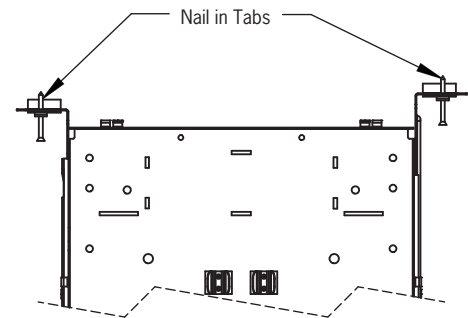

FIGURE 3
- Insert the flexible electrical cable above the ceiling into the cable-clip (2-provided) on the mounting frame. The clips will keep the cable in close proximity to the hole that will be cut in the ceiling for easy access. (Figure 3)
- If you are in a region that requires a seismic tether to support the housing when installed into the mounting frame, ensure that it is in close proximity to the opening in the mounting frame for easy access. (Figure 3)
- Using the three (3) self-drilling screws provided, drive them through the holes in the mud frame and up through the mounting frame above the ceiling.
- If required, locate seismic tether and attach it using the screw at the seismic anchor point. (Figure 3)